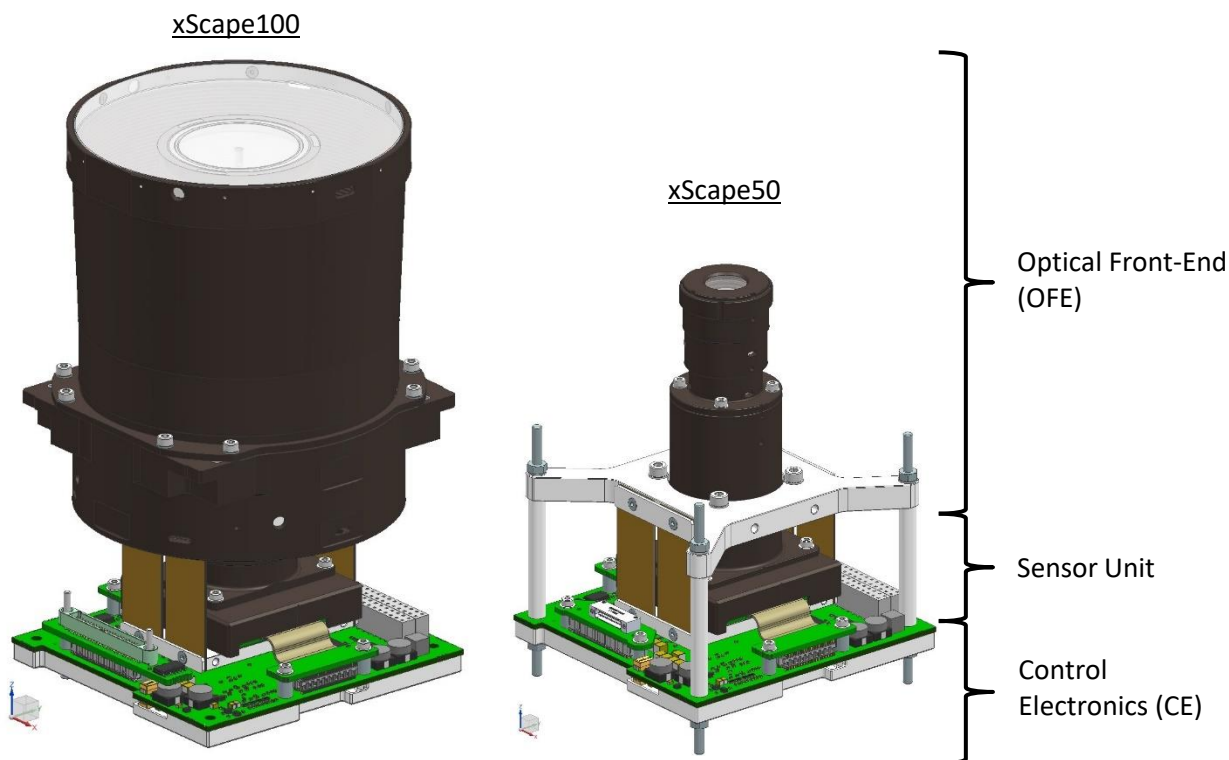

Figure 3-2: xScape100 & xScape50 Imager Subassemblies with Axis Definition
Each product in the xScape50 and xScape100 Product Range consists of three subassemblies which comprises of the xScape100 VNIR or VIS Optical Front-End (OFE), the Sensor Unit Assembly and the Control Electronics (CE). Figure 3-2 illustrates the physical imager system subassemblies and provides the axis definition of the xScape100 and xScape50 Imager products.